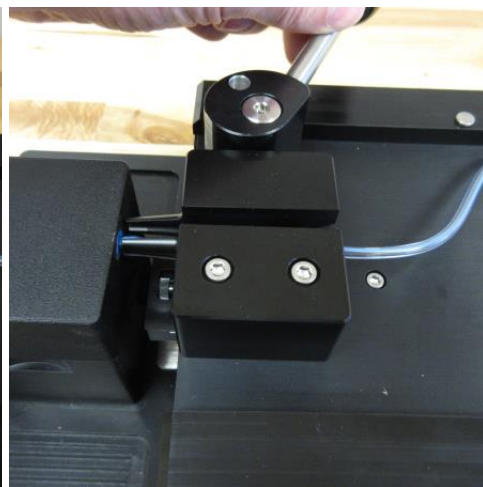

Figure 10
- Open jaws and then push thrust lever partway forward so as to clear the stop gate. (Figure 10)